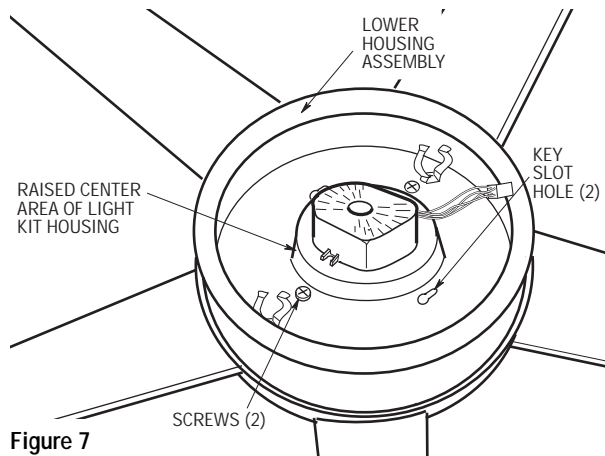

Figure 7
- ☐ 10. Attach the lower housing assembly to the fan motor using the two key slot holes. (Figure 7). Secure the lower housing assembly by tightening the two screws.